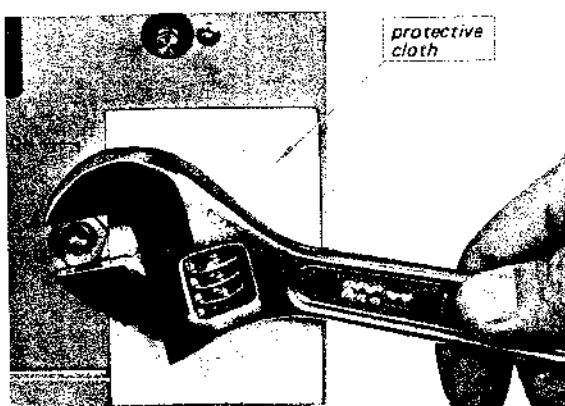
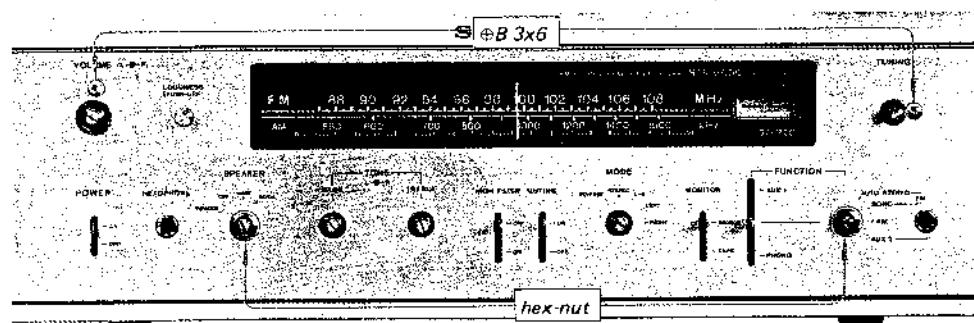

Fig. 2-4. Hex nut removal
Fig. 2-3. Front panel removal
3. Remove the two screws ($\Phi B 3 \times 6$) and two hex-nuts securing the front panel to the front subchassis as shown in Fig. 2-3. Place a piece of cardboard or cloth between the wrench and front panel to avoid marring the panel as shown in Fig. 2-4. Now the front panel is free for servicing.